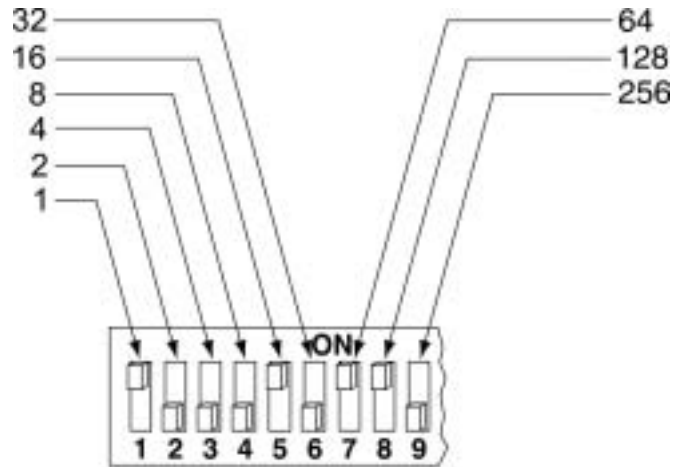

Figure A1. Zone address 209 ($128 + 64 + 16 + 1$)
Each receiver has a DIP switch used to assign its site address. In zone operation, to determine the receiver site address, see Table A1, Table A2, and Figure A1 and perform the following:
Therefore, for address 209, you would use switches 8 (128), 7 (64), 5 (16), and 1 (1). See Figure A1.